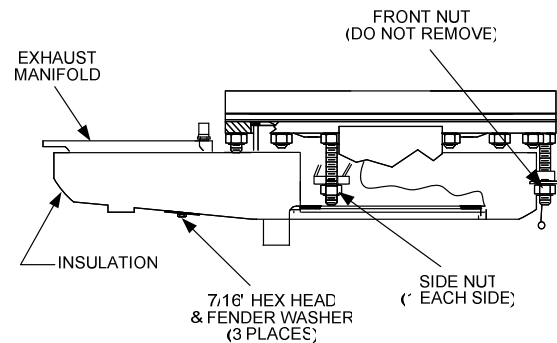

Figure 7.8
- To prevent damage and simplify handling of the exhaust manifold, it will be necessary to remove the exhaust manifold insulation. Using a 7/16" wrench or socket, remove the 3 bolts and fender washers securing the insulation to the exhaust manifold (Figure 7.8).
- Loosen the three 1-1/16" nuts that hold the manifold. Remove the two side nuts. **DO NOT REMOVE THE FRONT NUT** (Figure 7.8).